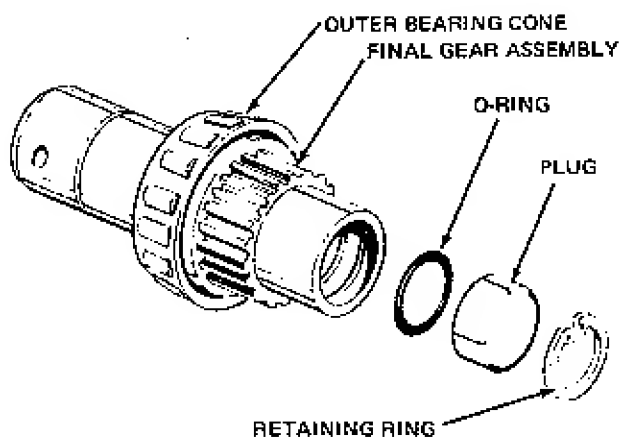

Figure 8. Final Gear Plug Installation
- b. Using block of wood and hammer, carefully and evenly tap outer bearing cone on final gear assembly shaft, bringing it up flush against side of gear teeth (Figure 8).
- c. Install O-ring, plug, and retaining ring in final gear assembly shaft (Figure 8).